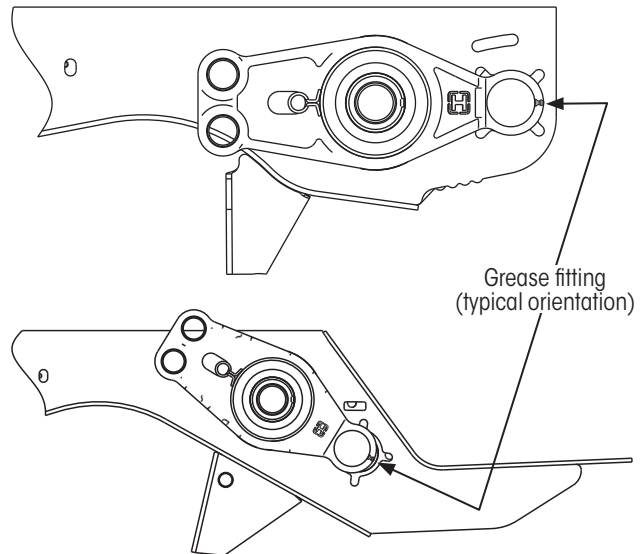

Figure 28: Accessible grease fitting orientation
4. **Rotate** the cam tube so the grease fitting is accessible (either pointing downward or to the rear) when the drums are installed (refer to Figure 28).